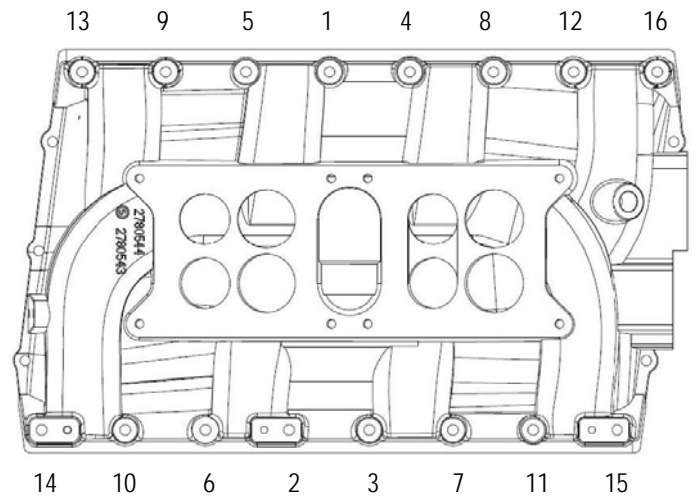

Figure 1
5. Install the intake manifold and hold down bolts. Torque all manifold bolts in two steps in the sequence shown in Figure 1.